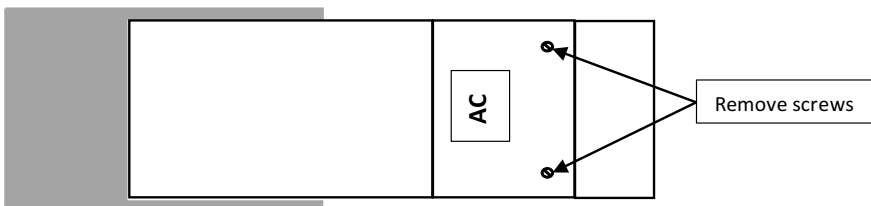

Fig 1
- Remove panel on the rear of the luminaire to gain access to the mains terminal block (please see Fig 1)